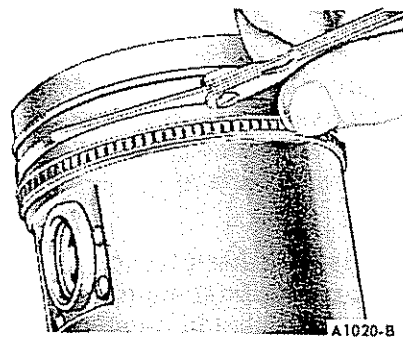

FIG. 34 Checking Piston Ring Side Clearance
6. Check the ring side clearance of the compression rings with a feeler gauge inserted between the ring and its lower land (Figure 34). The gauge should slide freely around the entire ring circumference without binding. Any wear that occurs will form a step at the inner portion of the lower land. If the lower lands have high steps, the piston should be replaced.